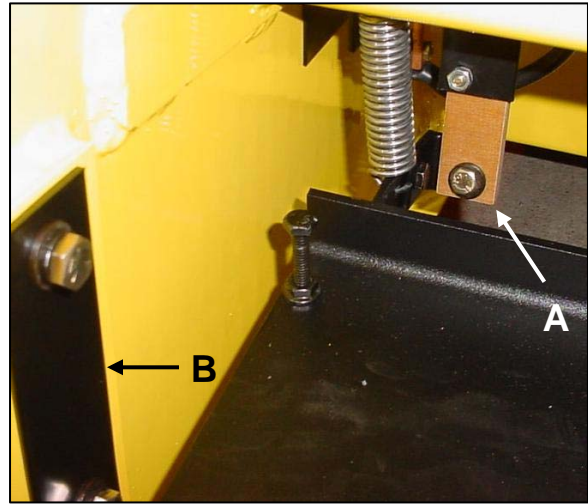

Figure 4.8.1
#### 4.8 TREADLE – Figure 4.8.1
- Remove the two spindle mounting screws from each of the treadle mounts (Figure 4.8.1 B).